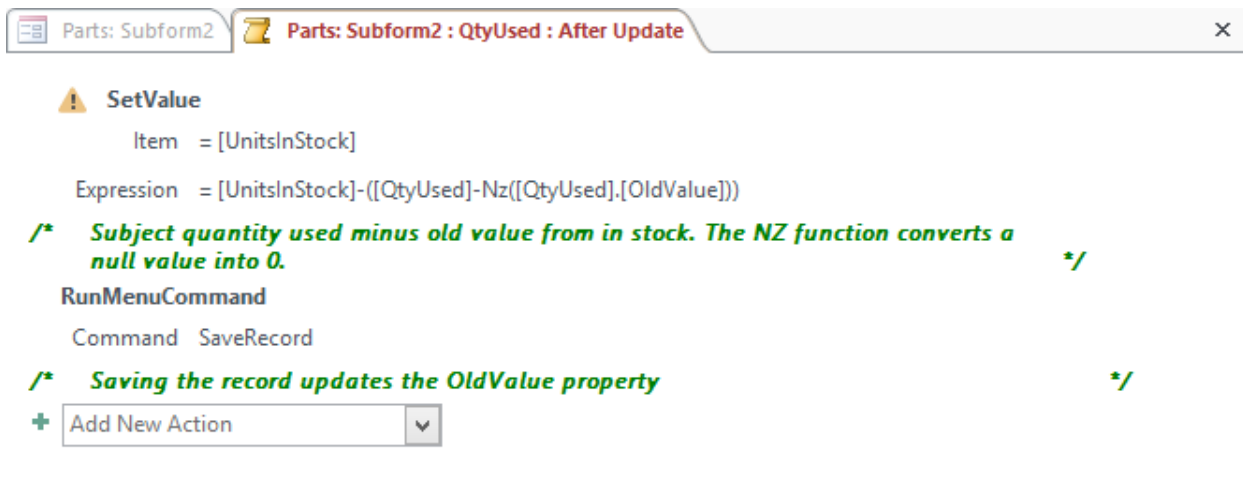

Figure 44: Macro with Comments Added for Each Action
5. Enter Comments: Drag and drop *Comment* actions from the Program Flow group in the Action Catalog to the Macro object pane. Figure 44 shows the macro object pane after adding comments after both actions. When finished, save the macro and return to the *QtyUsed* Properties window.